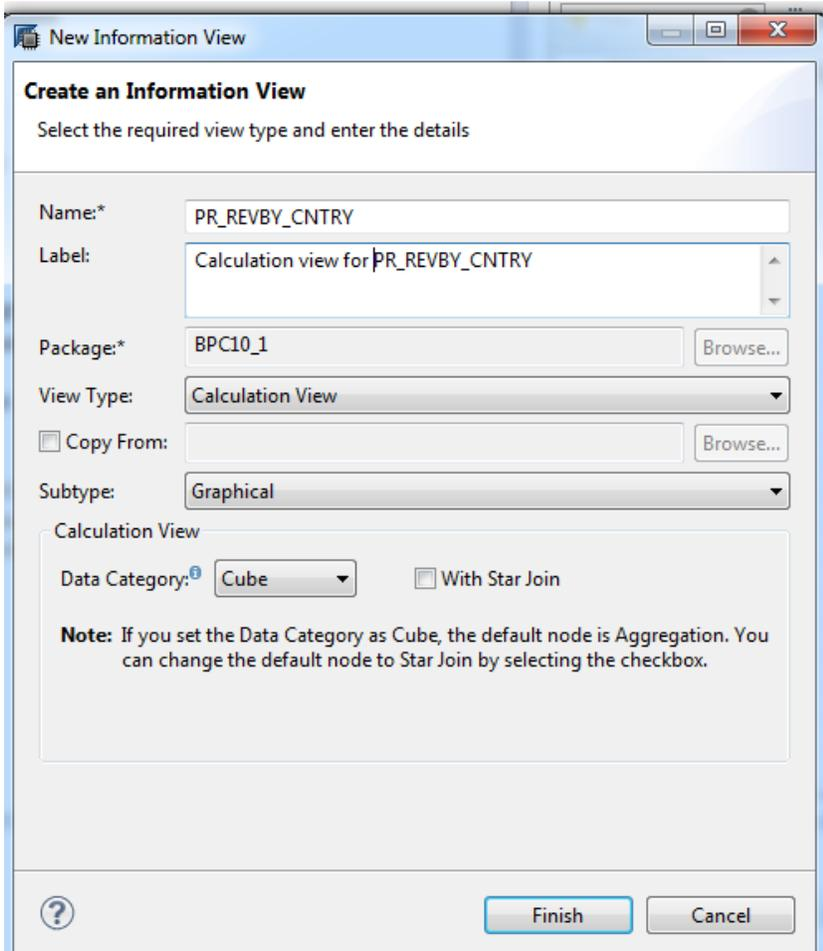

Figure 16 – Define the calculation view
1.9 **Define the calculation view** – Enter name and description for the calculation view as shown in Figure 16. Click 'finish' to continue.